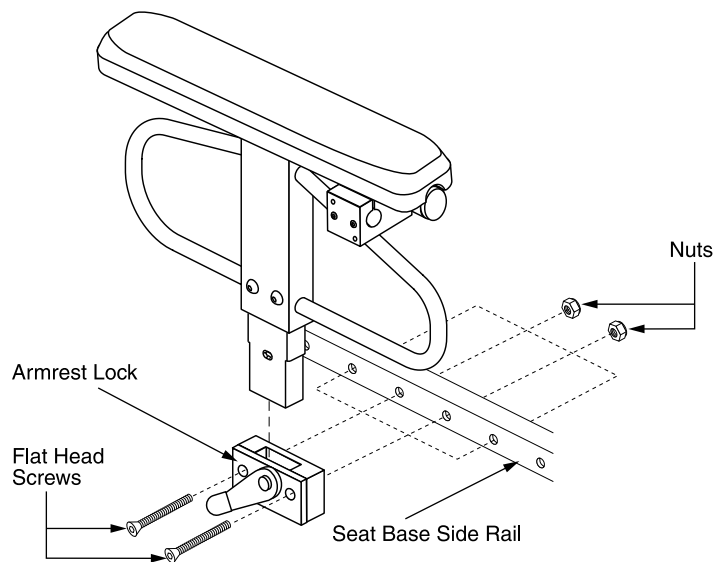

Figure 4. Heavy Duty Removable Armrest Position Adjustment
1. Rotate the armrest lock lever rearward and remove the armrest from the armrest lock. See figure 4.
2. Use a 3/16-in. hex key to remove the flat head screws and nuts that fasten the armrest lock to the seat base side rail. See figure 4.